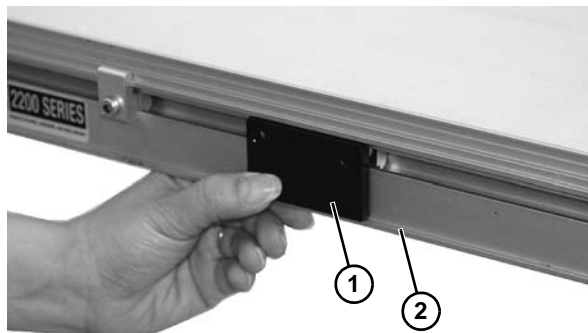

Figure 9
3. Set spacer (**Figure 9, item 1**) on conveyor lip (**Figure 9, item 2**).